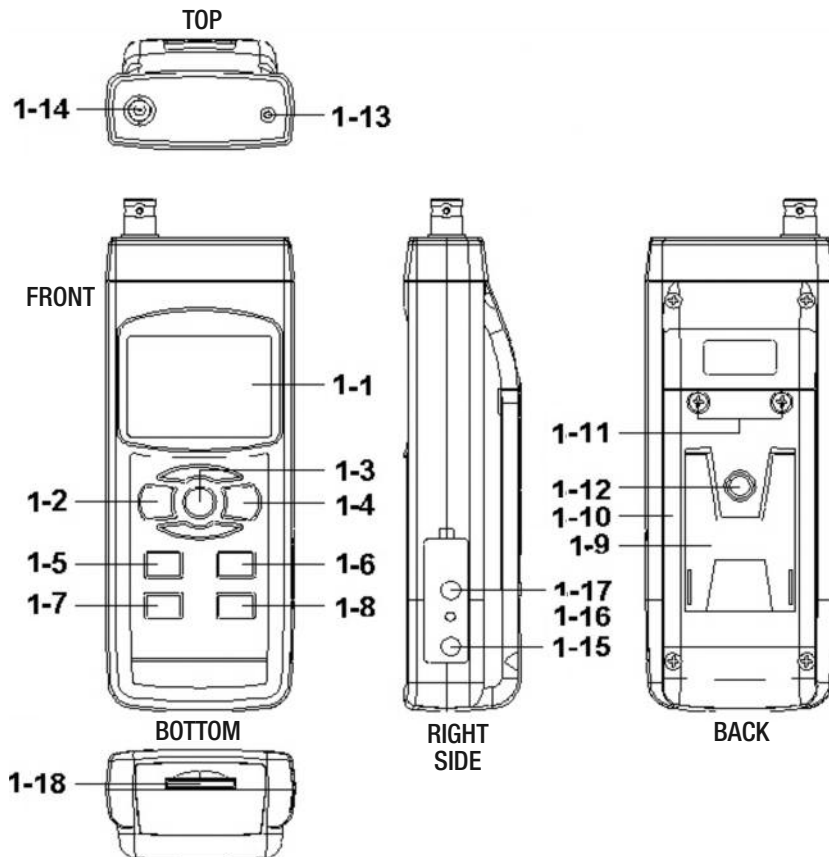

Fig. 1. The DPH230SD's controls and indicators and other physical features
Figure 1 shows all of the controls and indicators on the front, back, top, bottom and right side of the DPH230SD. Familiarize yourself with the positions and functions of these controls, indicators and connectors before moving on to the setup procedure.
- 1. Insert the plug of the pH electrode** into the BNC socket at the top of the meter (callout 1-14 of Fig. 1).
2. To measure the pH of a solution, press the ▼ button until the display shows the term “pH”. Make sure the pH electrode is seated firmly in the BNC socket (callout 1-14 of Fig. 1) on the top of the meter. If the ATC temperature probe is being used, make sure it is seated firmly in its socket (callout 1-13 of Fig. 1) on the top of the meter as well. If the ATC probe is not being used, perform the last step of procedure to manually match the compensation temperature to the temperature of the solution being tested.
3. To measure the ORP of a solution, press the ▼ button until the display shows the term “mV”. Plug an optional ORP electrode with a BNC connector into the same socket on the top of the meter (callout 1-14 of Fig. 1) that accepts the plug of a pH electrode.